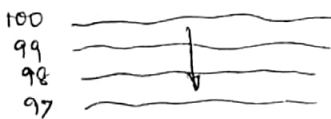

Fig 2a. Steep Slope
- i) closely spaced contours indicate steep slope (Fig 2a)